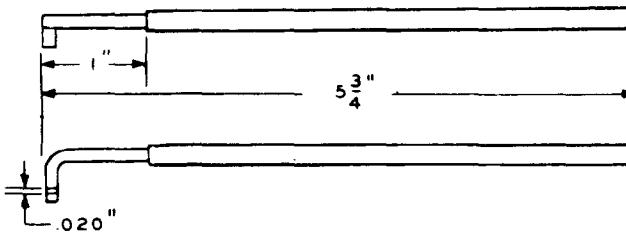

Fig. 5—626A Spring Adjuster Tool
2.06 626A: The 626A tool (Fig. 5) is a spring adjuster used in adjusting vertical unit balancing springs on the 324- and similar-type switches.